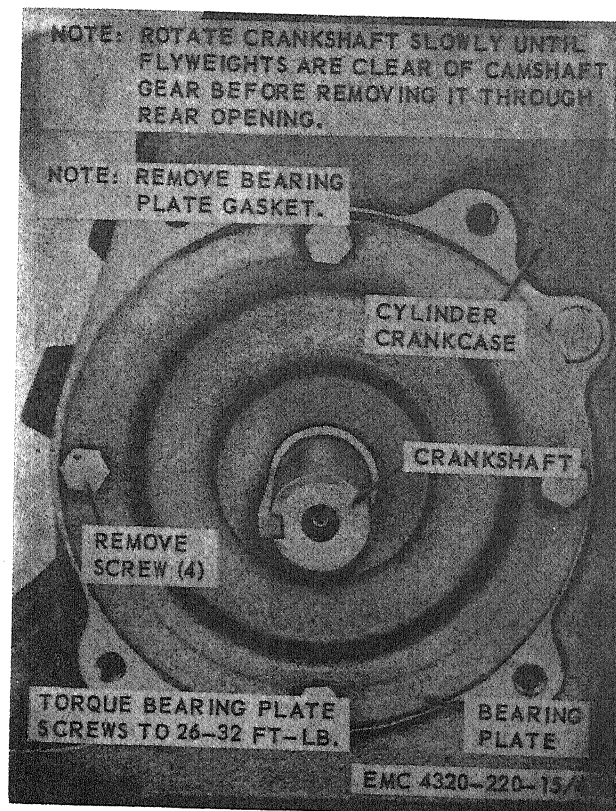

Figure 41. Bearing plate, removal and installation.
- b. Remove and install the bearing plate as shown by figure 41.